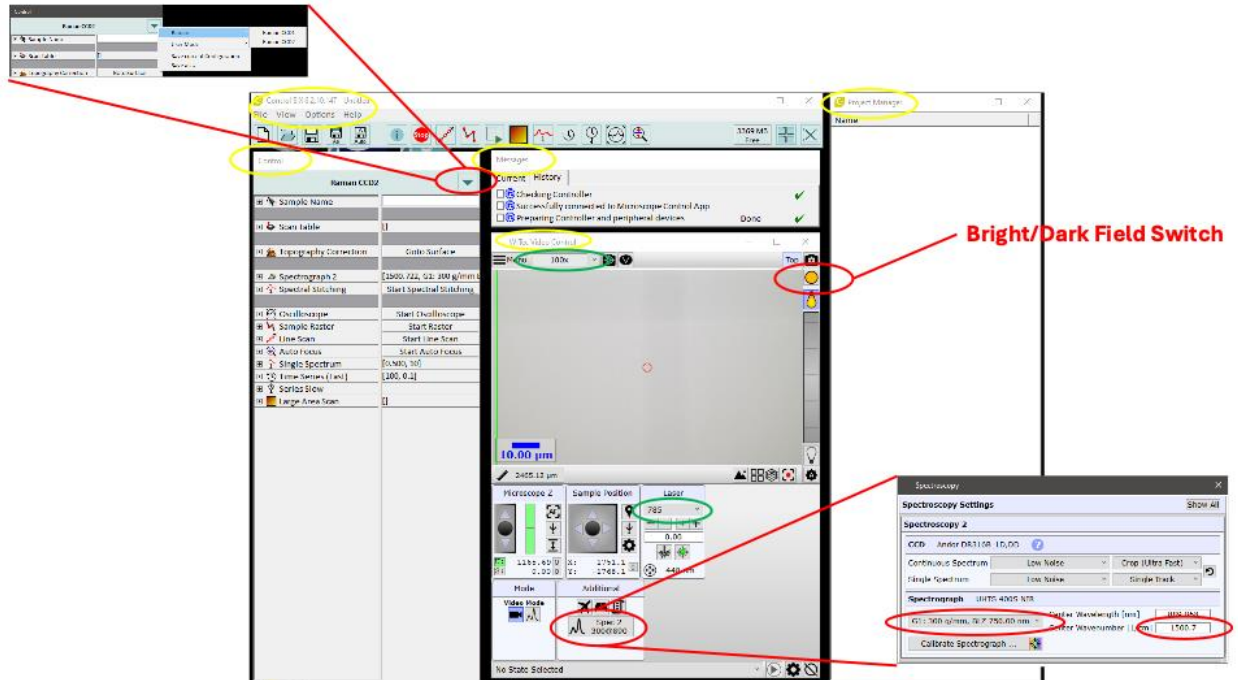

Figure 4
- 5) Double click on “Control SIX” on the desktop to start microscope control software. It contains five parts (see Fig 4): **Main Menu**, **Control**, **Messages**, **Video Control**, **Project Manager** (yellow circles).
- 6) Control SIX also automatically enables Project SIX (**Project Manager** in Fig 4) that is used to display/process the data.
- 8) For laser 488nm and 532nm, you must select Raman CCD1(upper left in Fig4); for laser 785nm, you must select Raman CCD2; for laser 633nm, you can select either Raman CCD, however performance of Raman CCD2 is better. Note: you should select SpectralCamera first then select laser.
- 9) Spectrum grating and center wavenumber are not in **Control>Spectrograph** anymore, they are in **Video Control>Additional** (lower right in Fig 4).
- 11) You can manually select Bright/Dark field in **Video Control** (upper right in Fig 4).